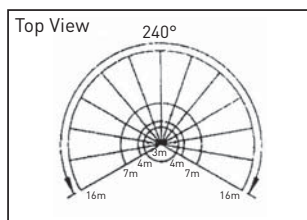

Fig. 3
- The outer zone covers an angle of 240° to a distance of approx. 3m to 16m at an installation height of 2.3m. (See Fig. 3).